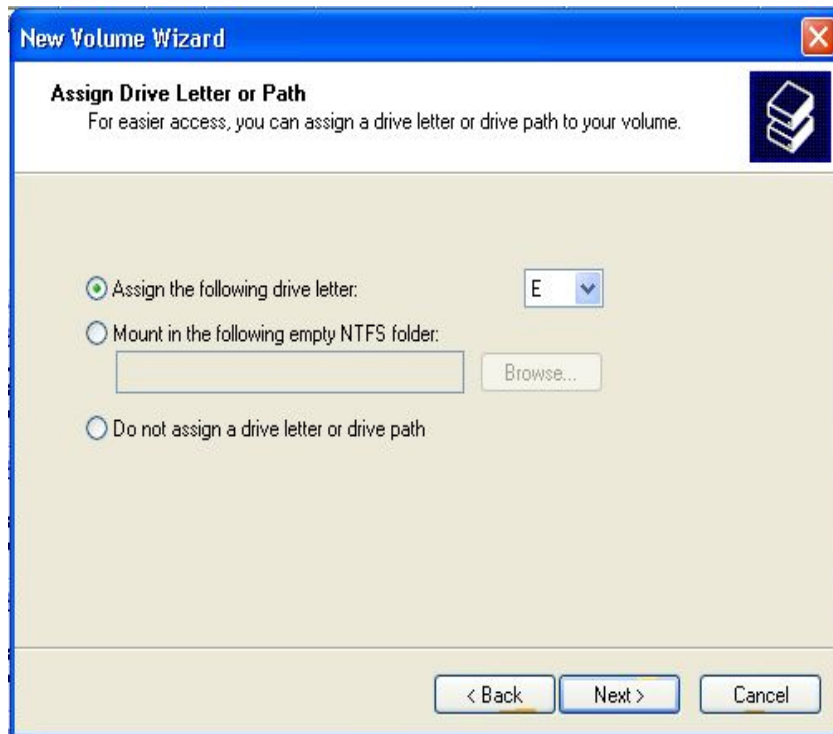

FIGURE 6-30. New Volume Wizard - Assign Drive Letters or Path Screen.
4. The *New Volume Wizard - Assign Drive Letter or Path* screen appears. Change the drive (array) letter, as desired. Click **NEXT >**. See Figure 6-30.